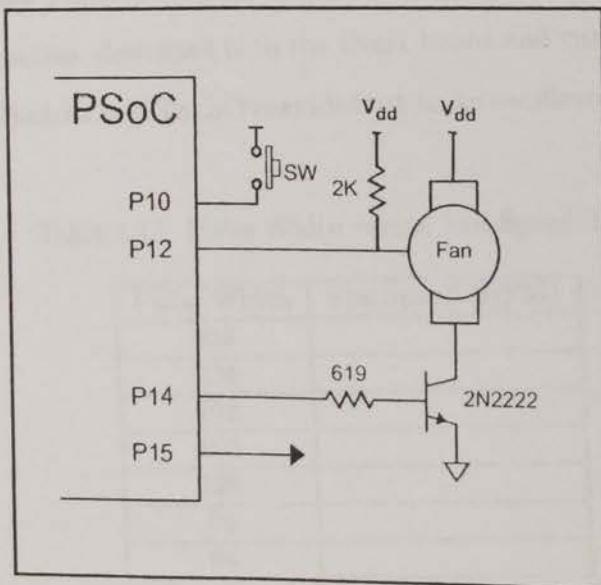

Figure 1.28: PSoC/Fan schematic.
- Configure the schematic as shown in Figure 1.28.